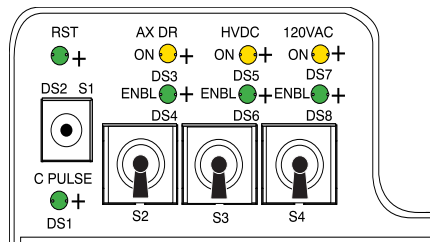

Figure 4-9 STC Backplane Service Switches
- ENSURE THAT THE DRIVE STATUS **LED** (Figure 4-9) IS NOT LIT. DO NOT SERVICE THE GANTRY IF THIS **LED** IS ON.